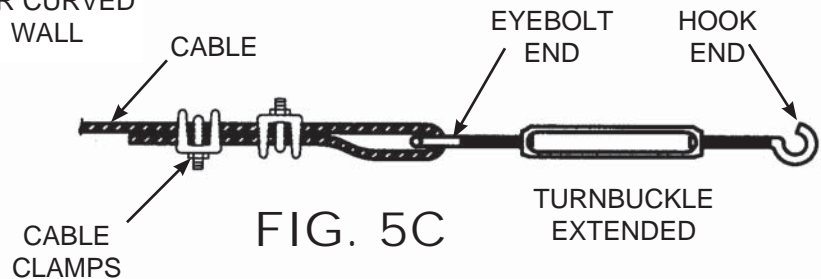

FIG. 5C
2) When installing the cable anchor bolt to the cable area, align the hole in the anchor bolt in the direction of the cable. See FIG. 5A. Run the cable through the in-line holes. See FIG. 5B. Run one end of the cable through the cable anchor at one end of cable area and loop. Attach (2) cable clamps and tightly secure cable, see FIG. 5A. Run other end of cable through eyebolt on turnbuckle, make loop and attach (1) cable clamp for now. With turnbuckle fully extended out, attach hook end of turnbuckle to the eyebolt at the end of the cable area. Loosen the (1) cable clamp and pull cable as taut as possible. Tighten (1) cable clamp and add second cable clamp now. Be sure all cable clamps are tight to secure the cable. Rotate mid-section of turnbuckle to tighten cable further, see FIG. 5C.